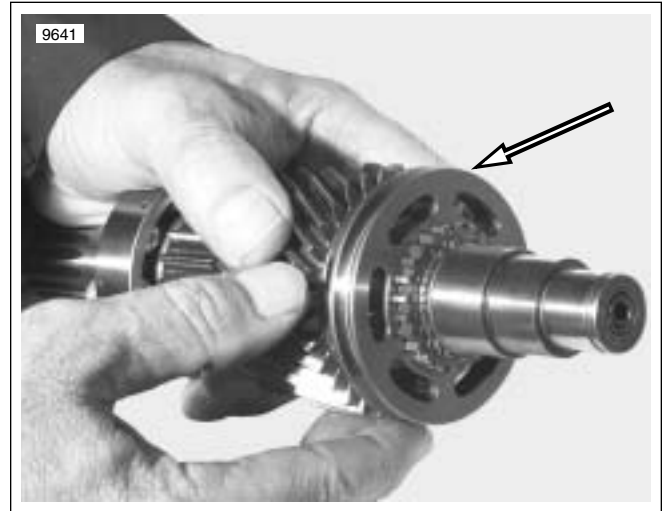

Figure 7-52. Shift Fork Slider
3. See Figure 7-52. Install shift fork slider.